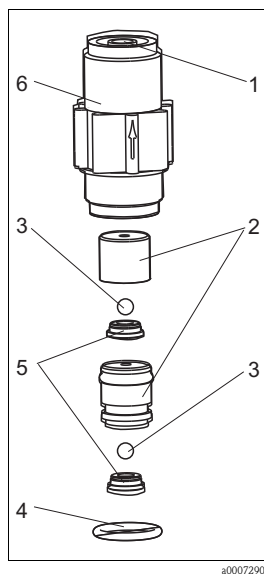

Fig. 27: Pressure valve
2. Remove the O-ring (→ Fig. 27, item 4) from the pump head with a small screwdriver. If replacing the valve, continue with Point 9.
3. Press the valve inserts (item 2) out of the valve by guiding a suitable tool (e.g. an Allen key) through the opening of the pressure connection (item 1).
4. Use the screwdriver to remove the valve seats (item 5). In doing so, let the valve balls (item 3) fall onto a piece of paper so they can be found easily again.
8. Press the valve inserts with the small hole in the direction of flow (arrow) into the pressure connection. Pay particular attention to the order of both valve inserts (→ Fig. 27).